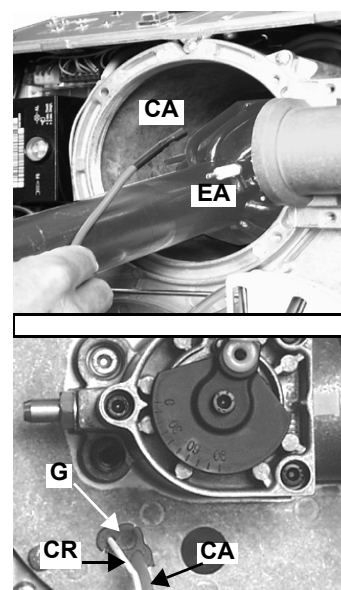

Fig. 32
- Check the ignition and detection electrodes, clean and adjust if necessary (see Fig. 32). In case of doubt, check the detection current according to the schemes in Fig. 36..
- 2 Remove the connector CR of the ionization electrode (Fig. 32).
- 3 Unplug cable CA of the ignition electrode EA (Fig. 32) and extract it from the flange by removing the rubber G (Fig. 32).